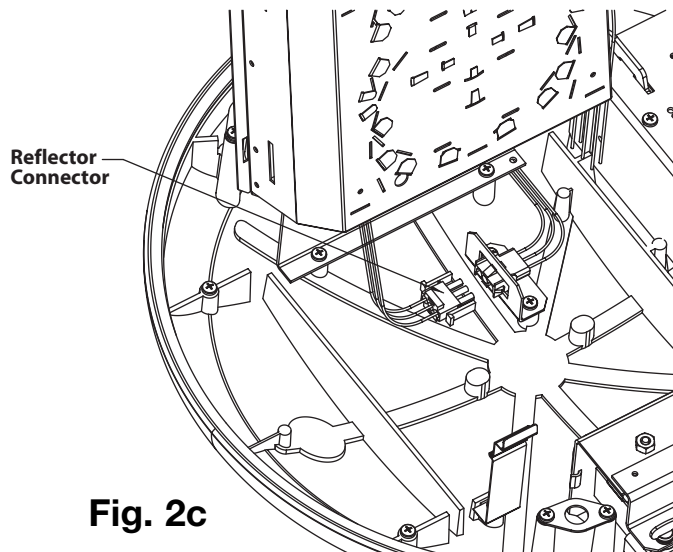

Fig. 2c
**NOTE:** Disconnect REFLECTOR CONNECTOR from the HOUSING as shown in Figure 2c.